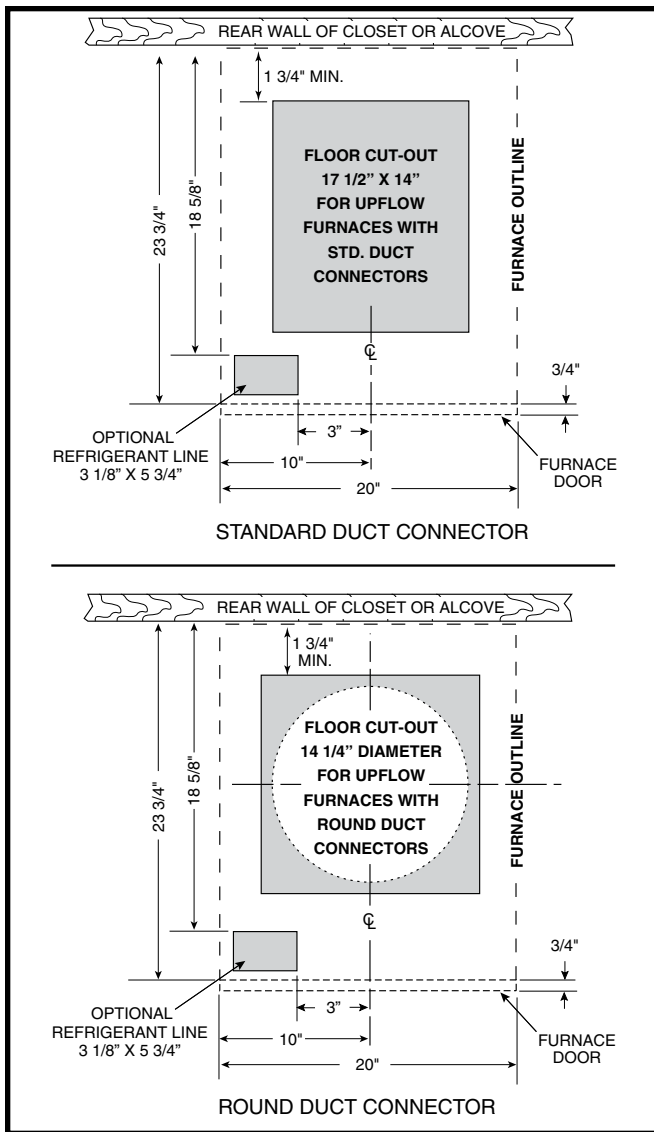
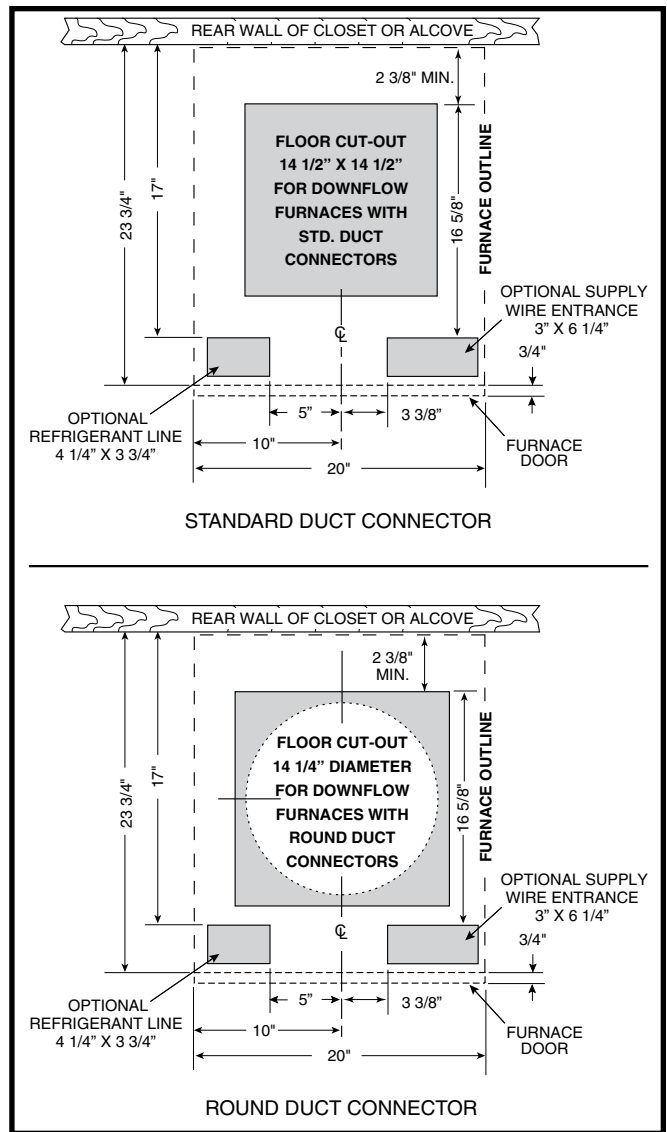

Figure 2. Cut-Out Dimensions for Upflow Furnaces
Figure 3. Cut-Out Dimensions for Downflow Furnaces
Floor cut-outs must be carefully located to avoid misalignment of the furnace and air duct. Standard and round cutouts for upflow furnaces are shown in Figure 2 (page 6). The cutouts for downflow furnaces are shown in Figure 3 (page 6).
2. Using the centerline as a starting point, draw the rest of the duct cut-out to the dimensions shown in Figure 2 or Figure 3.
- a. Mark floor openings as shown in Figure 2 \(page 6\). Provide minimum clearances at rear and left side walls of closet for installation of furnace and wiring.